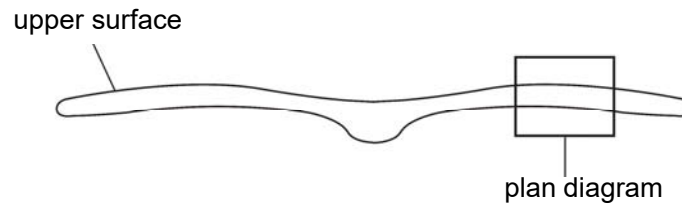

Fig. 3.2
- (ii) Use the measurements from **(a)(i)** to help you to draw a large plan diagram to show the distribution of the tissues in the section indicated in Fig. 3.2.